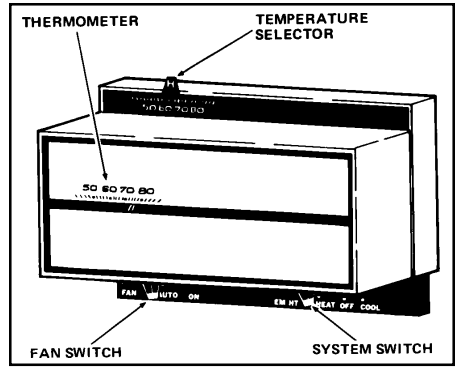

Figure 1. Typical Thermostat
1. Set the thermostat system switch to COOL and the thermostat fan switch to AUTO. (See Figure 1)
1. Set the thermostat system switch to HEAT and the thermostat fan switch to AUTO. (See Figure 1)
1. Set the thermostat system switch to AUTO and the thermostat fan switch to AUTO. (See Figure 1)
Set the thermostat system switch to OFF and the thermostat fan switch to AUTO. (See Figure 1). The system will not operate, regardless of the thermostat temperature selector(s) setting.
Set the thermostat fan switch to ON (See Figure 1). The indoor blower will start immediately, and will run continually until the fan switch is reset to AUTO.